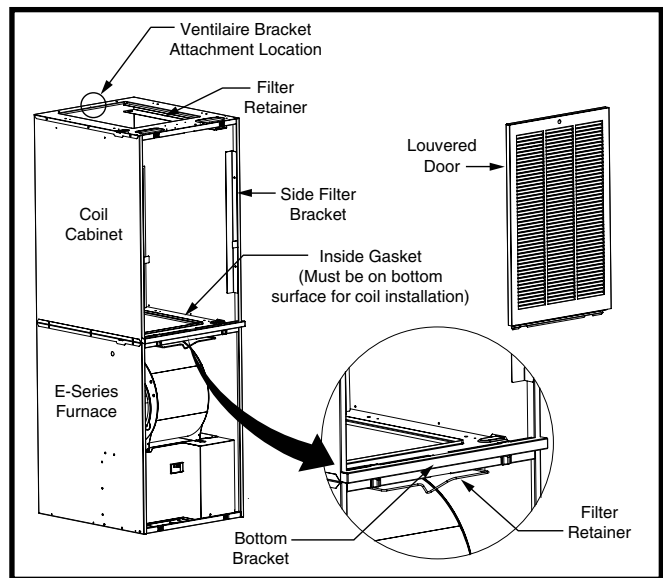
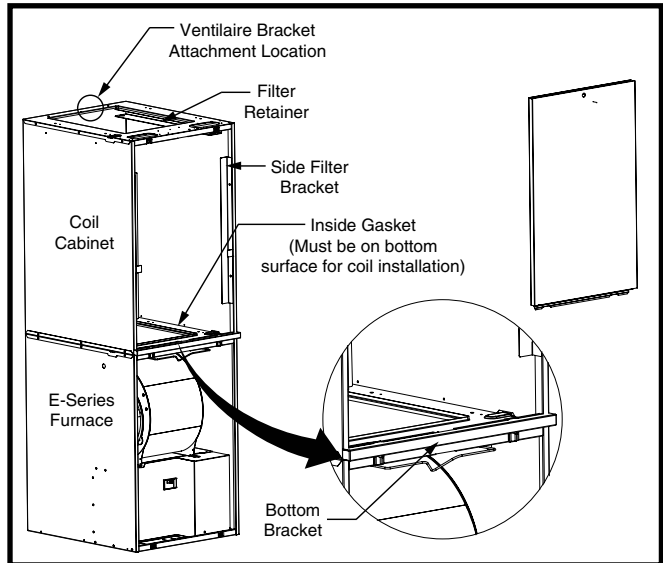

Figure 2. Downflow with Non-Ducted Return
Figure 3. Downflow with Ducted Return
- Downflow alcove installations: For non-ducted return set ups, use RE9D models with louvered door front return. See Figure 2 \(page 7\). For ducted return set ups, use RE9U models and see Figure 3.
For ducted return air systems with air conditioners or heat pumps, either provide an access panel in the duct or use the filter rack in the RE9U furnace (Figure 3). The duct system must be properly sized to account for any additional external static pressure produced from the chosen filtering method.